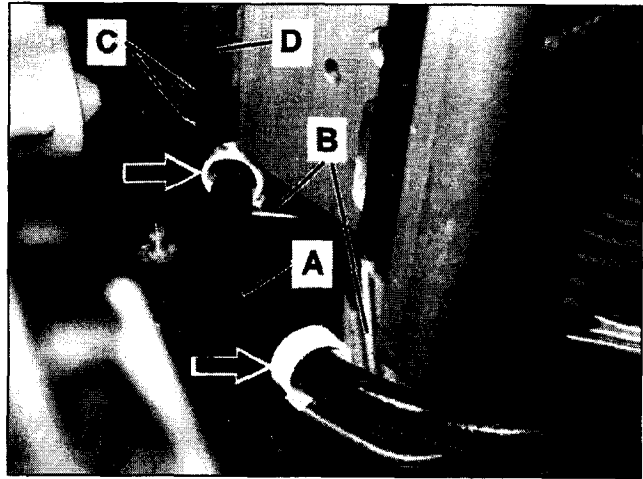

Figure 20
23. Secure new SBC suction hose (A, Figure 20) to SBC hydraulic unit mounting bracket (B) using **new** ("omega" type) mounting clips (arrows).
24. Insert a cable tie through slots (C, Figure 20) in bracket (D), **do not** close cable tie